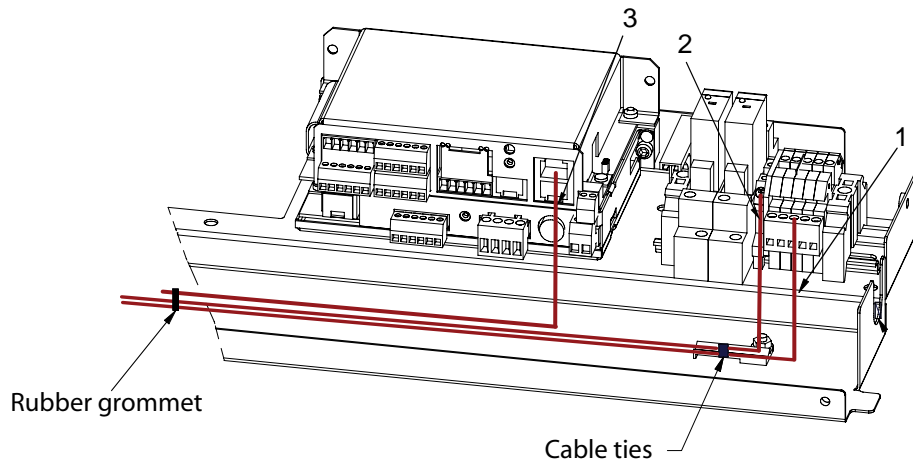

Fig. 5-23
- Connect the drive unit to the electrical plate Y, see Fig. 5-23
*As soon as the drive unit is installed, the traverse rail (X) is locked in its position. The traverse cannot be moved until the power is supplied and the brake is released.*
Connect to electrical plate 1.Y, see Fig. 5-23